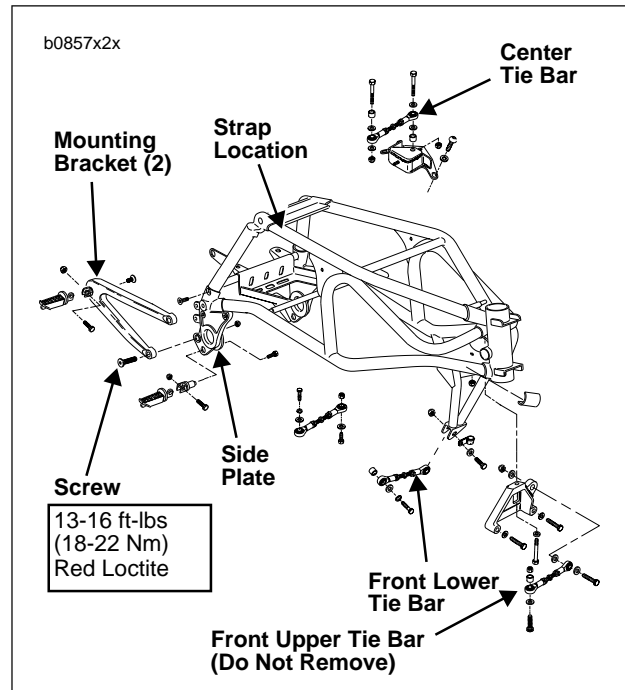
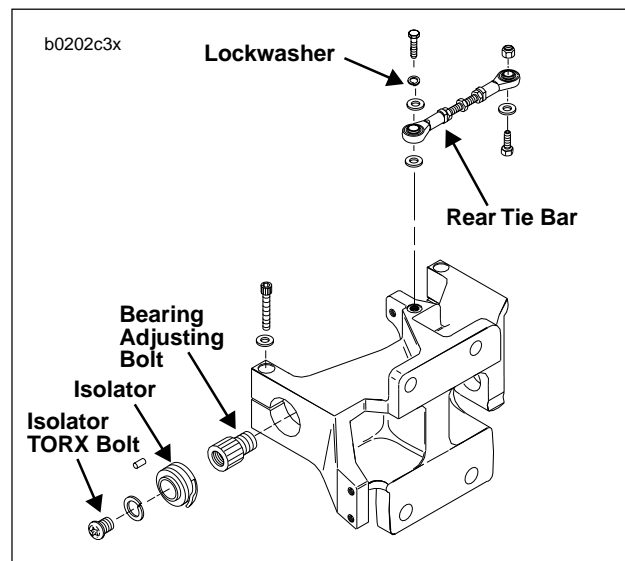

Figure 2-82. Frame Assembly, Tie Bars and Sideplate
Figure 2-83. Mount Block
4. See Figure 2-82. Strap frame, just forward of tail section, to overhead beam or hoist and put slight tension on strap to secure frame assembly.
5. See Figure 2-82. Remove frame side tie bar mounting hardware from front lower and center tie bars. Leave fourth tie bar (front upper) attached to both frame and engine. Discard locknuts.
6. See Figure 2-83. Remove rear tie bar bolt, lockwasher and washers from mount block. Discard lockwasher.
7. See Figure 2-83. Loosen left and right isolator bolts. Do not remove.
8. See Figure 2-82. Remove two screws, locknuts and right side passenger footrest mounting bracket from frame. Discard locknuts.
11. See Figure 2-82. Remove three screws, locknuts and right side plate from frame. Discard locknuts.
2. See Figure 2-83. On left side of motorcycle, align locator hole with roll pin and install rear isolator.
3. See Figure 2-83. Loosely install isolator TORX bolt and washer through rubber isolator into bearing adjusting bolt. Do not tighten.
8. See Figure 2-82. Install right side plate with three screws and locknuts. Tighten side plate mount screws to 16-19 ft-lbs (22 -26 Nm).
15. See Figure 2-82. Install right side passenger footrest mounting bracket with two screws and locknuts. Tighten screws to 13-16 ft-lbs (18-22 Nm).
16. See Figure 2-82. and Figure 2-83. Install front lower and center tie bars to frame with original locknuts. Tighten bolts to 30-33 ft-lbs (41-45 Nm). Install rear tie bar to mount block with lockwasher. Tighten bolt to 30-33 ft-lbs. (41-45 Nm).